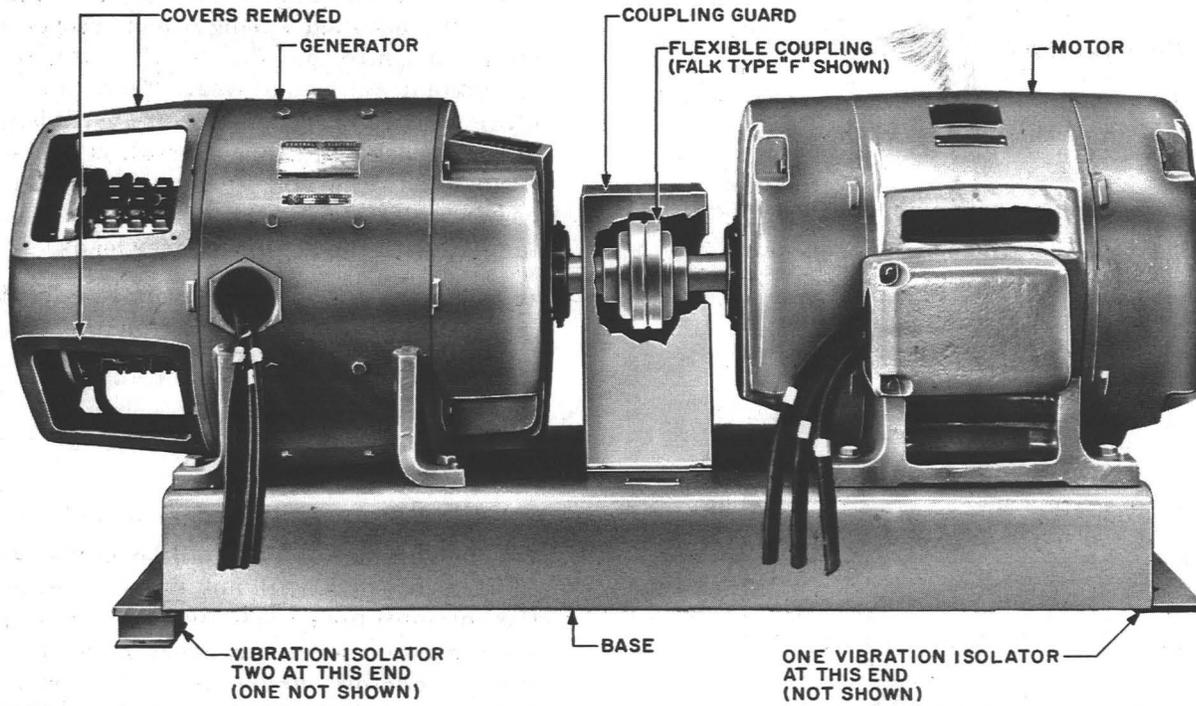

Fig. 1 - Motor-Generator — KS-15839, L5 shown
**1.10** These sets have separate motors and generators joined by either a Zurn flexible coupling or Falk flexible coupling type F. Machines, couplings, and brush rigging are shown in Fig. 1 to 5 inclusive.